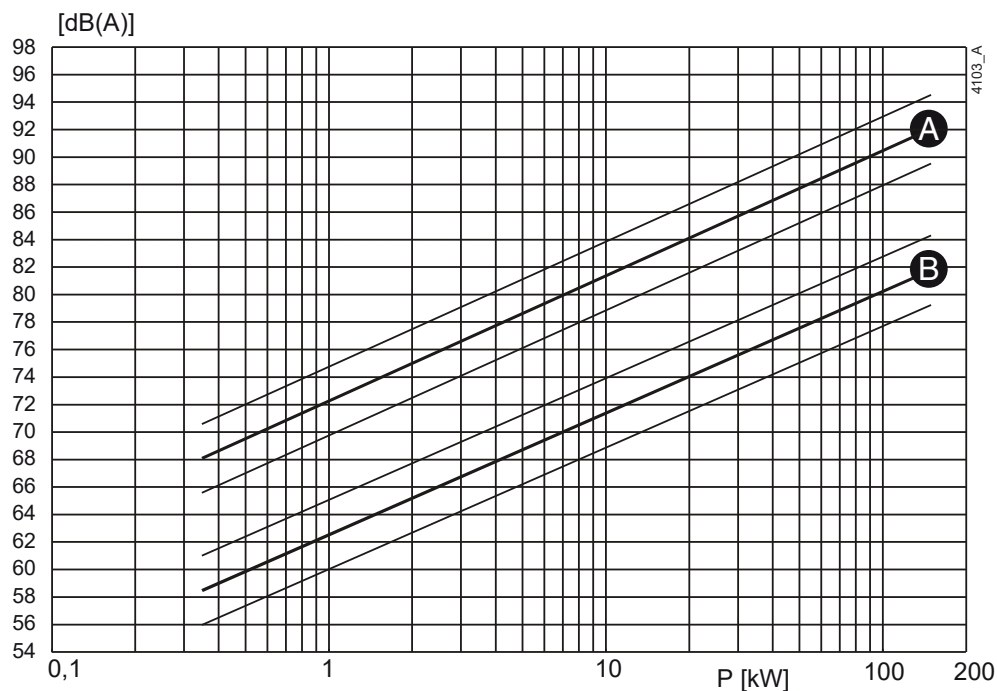
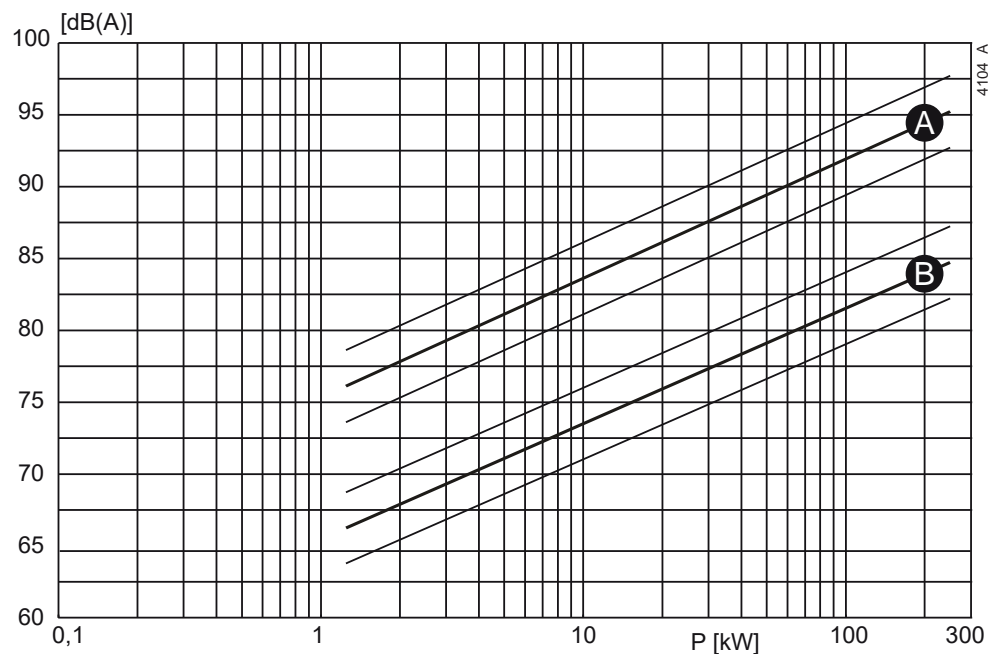

Figure 110: Noise level as function of pump power [kW] at 1450 min^{-1}
Figure 111: Noise level as function of pump power [kW] at 2900 min^{-1}
- 1 Determine the noise level (L_1) of the pump, see figure 110 or figure 111.